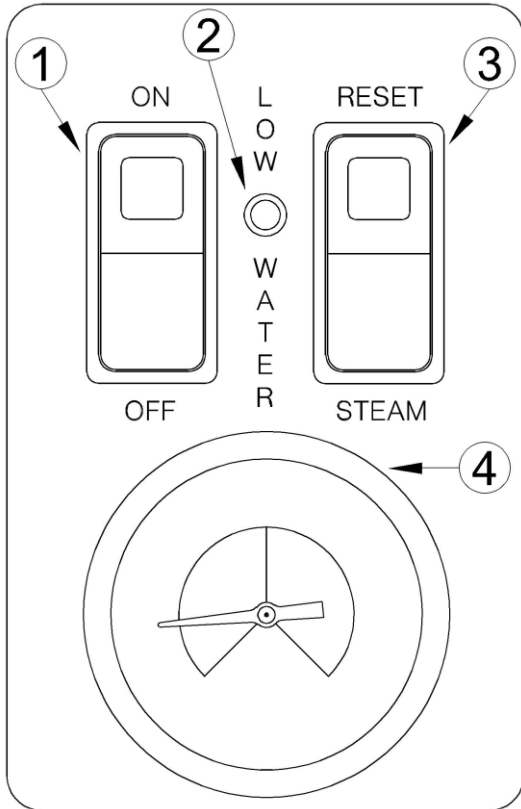

Figure 4-1
3. Turn ON the ON/OFF switch. See Figure 4-1.
4. The Boiler fills in about 5 minutes. If the red Low Water Indicator Light stays ON, call a qualified Cleveland Range authorized service representative or Cleveland Range. See Figure 4-1.
5. When the amber light in the Steam/Reset switch lights, press the Steam/Reset switch. See Figure 4-1.